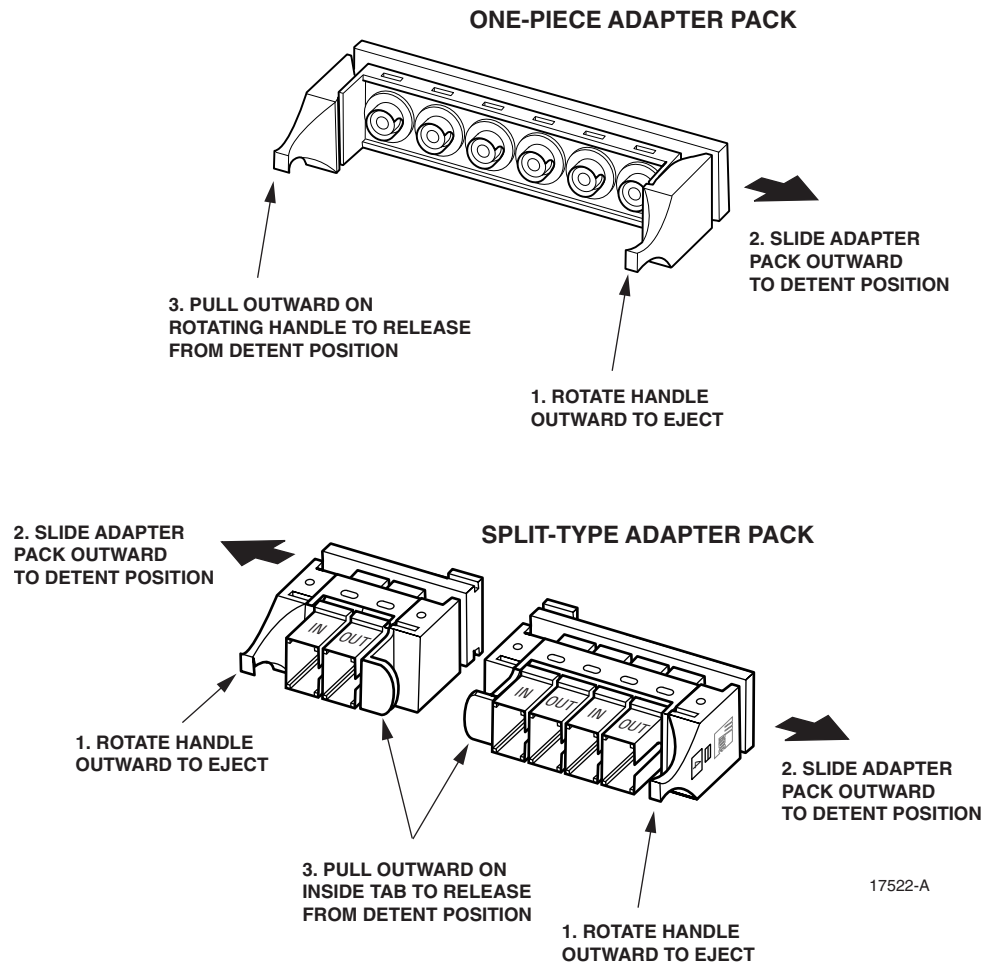

Figure 7. Adapter Pack Removal From FTB
- ▶ **Note:** If it is necessary to remove an adapter pack, rotate the rotating handle outward to eject the adapter pack from the FTB. Slide the adapter pack out until it contacts the internal detent. For split-type adapter packs, pull out on the inside tab, as shown in Figure 7, to release the internal detent. For one-piece adapter packs, pull out on the inside rotating handle to release the internal detent.